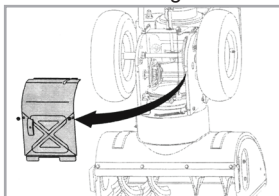

Fig.22
2. Carefully pivot the snow thrower up and forward so that it rests on the auger housing. Remove the frame cover from the underside of the snow thrower by removing four self-tapping screws which secure it. See Figure 22.